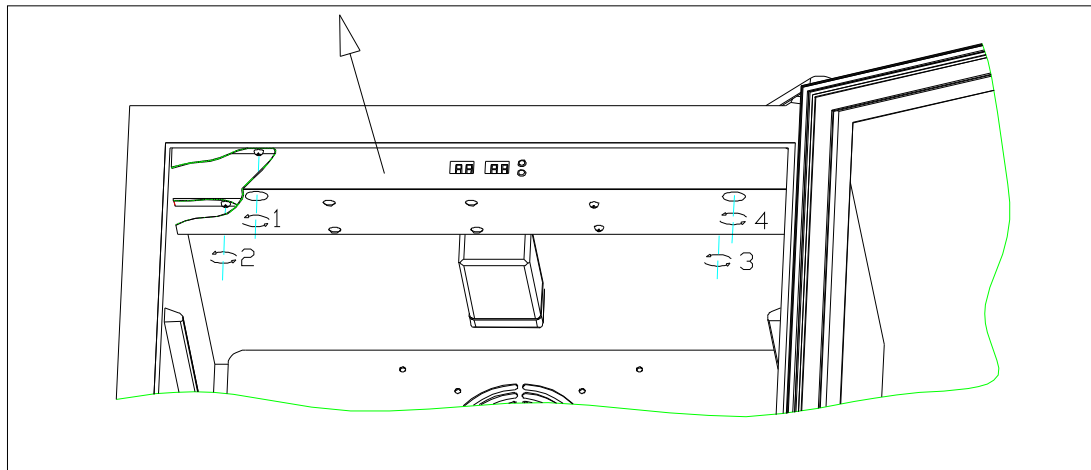
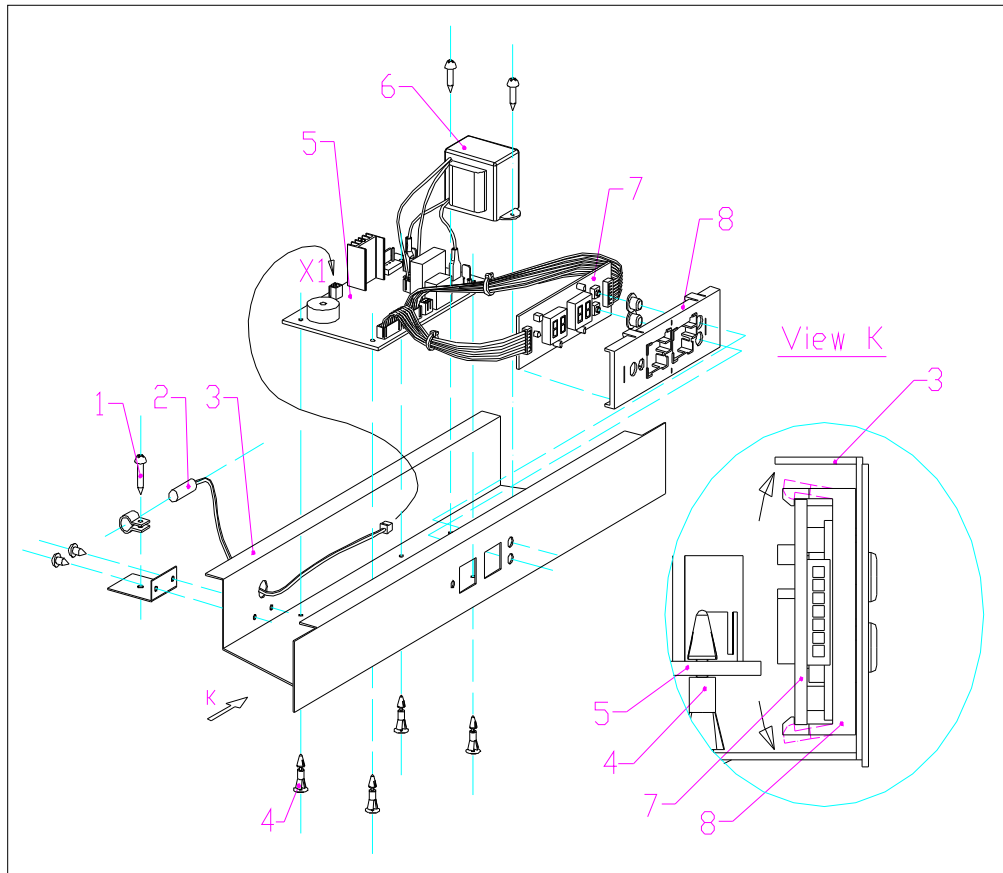

Fig.18
Fig.19
Check the faulty part and relevant connection. If this does not cure the fault replace the control board see (Fig.18 & Fig.19)
- 1 >. Normally the LED temperature display should the ambient temperature shortly after the unit is plugged in, if not, disassemble the electrical box see (fig 18), check if the sensor plug marked “X1” “X10” connected properly, if this connection are made correctly and the fault persists replace this sensor after the air duct board(Fig.1, Fig.2 ,Fig.3, Fig.4 & Fig.5).
1 >. Normally the LED temperature display should the ambient temperature shortly after the unit is plugged in, if not, disassemble the electrical box see (Fig.18 & Fig.19), check if the sensor plug marked “XI” connected properly, if this connection is made correctly and the fault persists replace this sensor,
- 2 >. If the LED displays” E1” it indicates the inner sensor should be replaced see (Fig.18 & Fig.19)
- 3 >. If the LED displays” E2” it indicates the inner sensor should be replaced see (Fig.18& Fig.19)
- 4 >. For some older models with old computerized control panels,If the LED displays 37°C, 99F or, infinity, replaces the sensor. See(Fig.18& Fig.19)
Replace the electrical display board fault; see (Fig.18& Fig.19)
- 2 >. Remove the two screws at back of electrical box (2,3), then half-remove the two front screws (1,4), then remove the electrical box; see (Fig.18)
- 3 >. Remove the sensor fixing screw (1), unplug the other end from “X1” housing of the control board, and fit a new sensor; see; (Fig19)
- 4 >. Unplug all the connectors, then press the head of each of the four plastic screws (4) one by one, then remove the control board and replace the control board see (Fig.19)
- 5 >. Remove the two transformer fixing screws and replace the transformer (6);(Fig.19)
Pull the four 4 display cover (8) fasteners as per arrowhead direction, and then remove the display board and its two connectors from both sides. Replace the display board. See (Fig.19)
model1: PCB board is a complete block,and in the electicial box of the same box with the transformer;(Fig.19)
Unplug all the connectors from the control panel, and press the 4 studs (4) one by one, and up draw the control panel, Replace it with the same model’s PCB board; (Fig.19)
- a. Remove the the shelf , (Fig.19)
- b.Unplug all the connector, press the 4 studs (3) one by one. Updraw the control PCB board, and draw off the PCB board, , replace it with the same model's PCB board. (Fig.19)
- a. Remove the screw fixing lamp cover(Fig.18),take off the lamp cover(Fig.23).